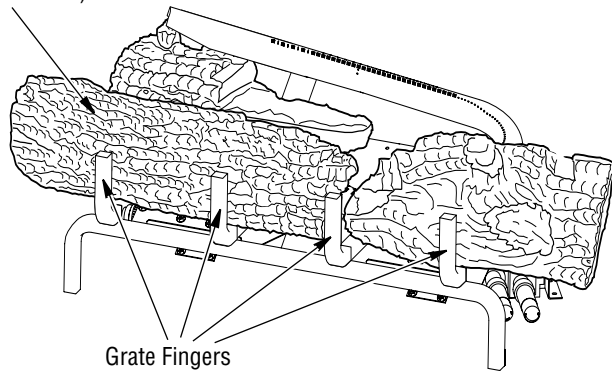

Figure 18 - Installing Front Left Log
3. Find the front left log (LMF24GTA/B or LMF24MOA/B models: D-059, LMF30GTA/B or LMF30MOA/B models: D-017, LMF36GTA/B or LMF36MOA/B models: D-025). See **Figures 18, 18A, and 18B**. The log has a rectangular stand off on the bottom that fits against the lip on the black metal base as shown in **Figure 18A**. The bottom of this log has a slot that fits over the second bar on the grate as shown in **Figure 18B**. Place the log on the base assembly as shown in figures.